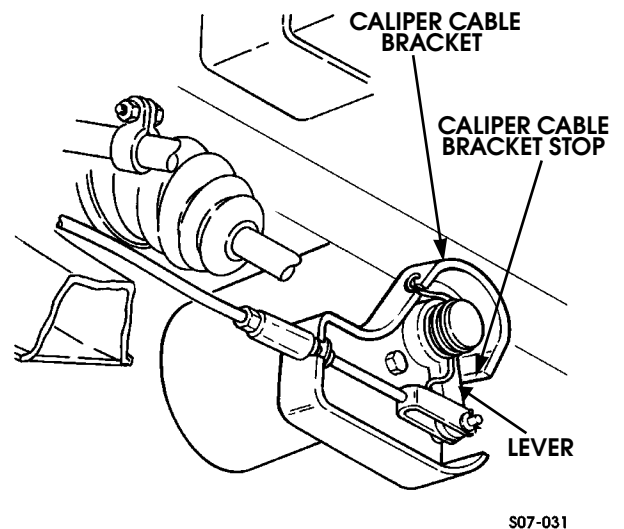

Figure 7-39: Caliper Cable Bracket Stop
7. Parking brake rod is properly adjusted if lever is in contact with caliper cable bracket stop (Figure 7-39).